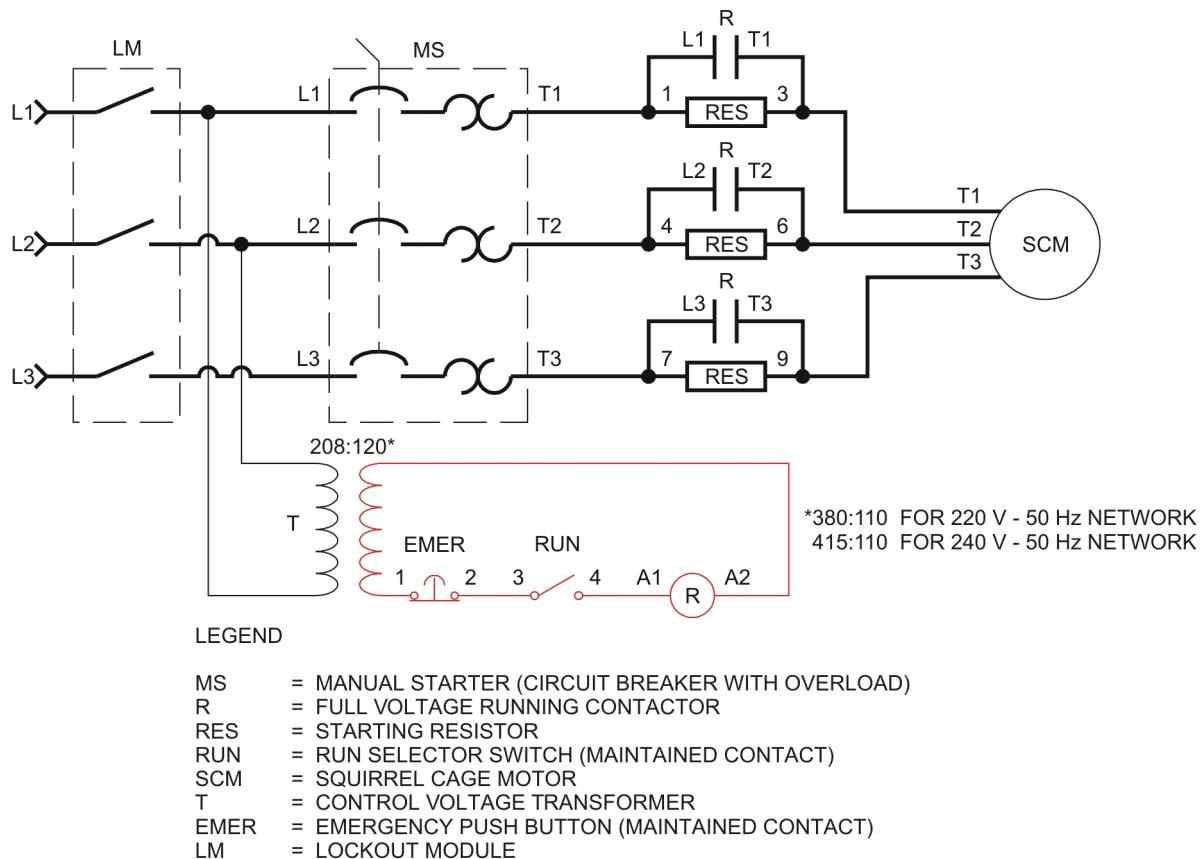

Figure 5-2. Primary resistor circuit.
A typical resistor starter circuit is shown in Figure 5-2. When the Manual Starter is turned on, the resistors are connected in series with the motor. A voltage drop occurs across the resistors and the motor starts on reduced voltage. Once the motor has reached a sufficient speed, the operator shorts the resistors by closing the selector switch commanding the run contactor. The motor is then connected across full line voltage.
9. Connect the circuit shown in Figure 5-2. Use the SS-1 contact of the Selector Switches module.